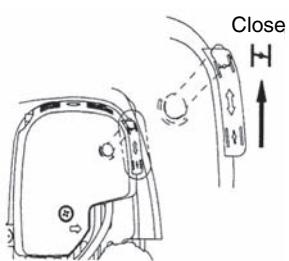
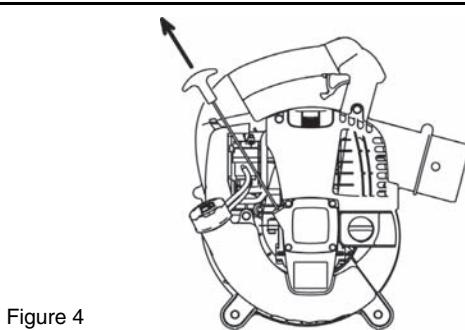

Figure 3
Figure 4
- Refill: After inspection if the oil is below the lower limit add oil through the same opening that the oil cap was removed. See Figure 4 on how to orient the engine to refill the oil.
(2) You may need to refill oil approximately every 10 hours of use (every 10 refuellings).
(3) If the oil changes in color or mixes with dirt, replace the oil. (For the interval and method of replacement, refer to P. 14)
- (4) Lift the choke lever to the closed position (Figure 3).
- (5) Hold the main handle with left hand to prevent the engine from moving.
- (6) Pull out slowly the starter handle till a certain resistance is felt. Return the starter handle backward once from this position, then pull it out with force (Figure 4).